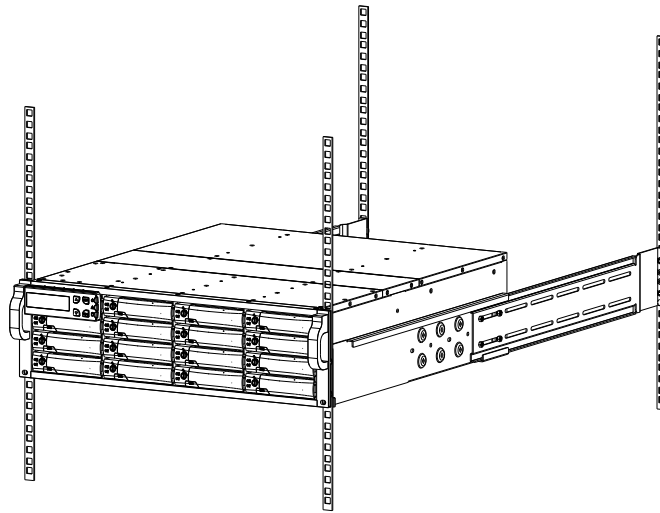

Figure 3.
2. Fasten two M5 screws through the chassis ears in the front side of the chassis to secure the AccuRAID subsystem in the rack as Figure 3.